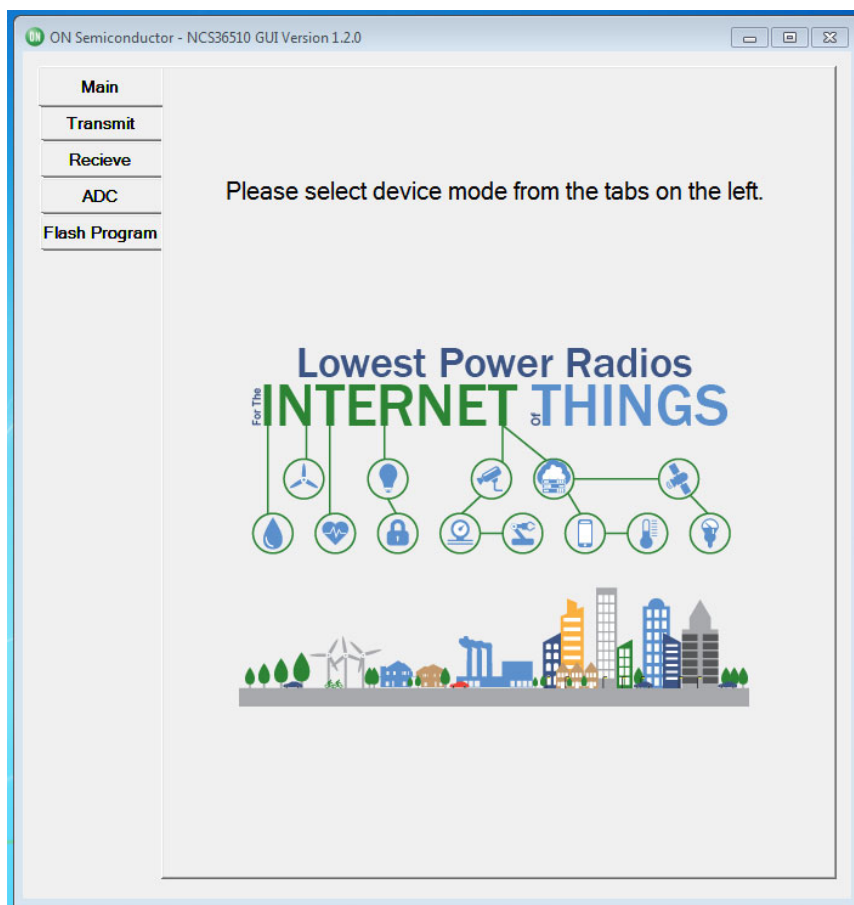
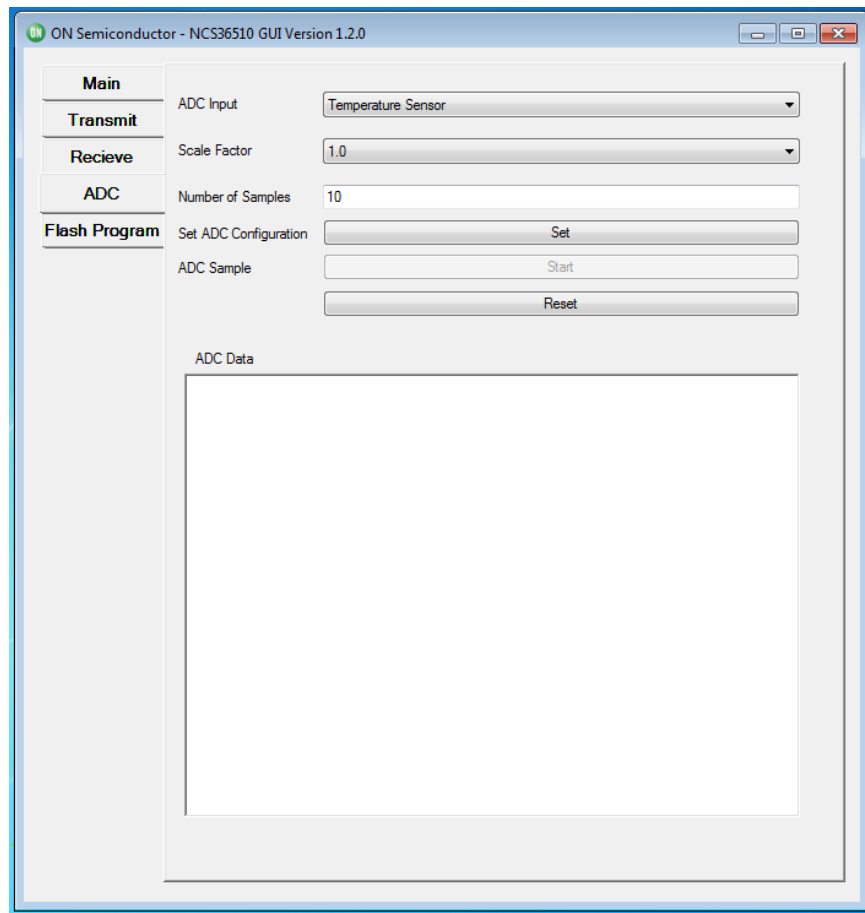
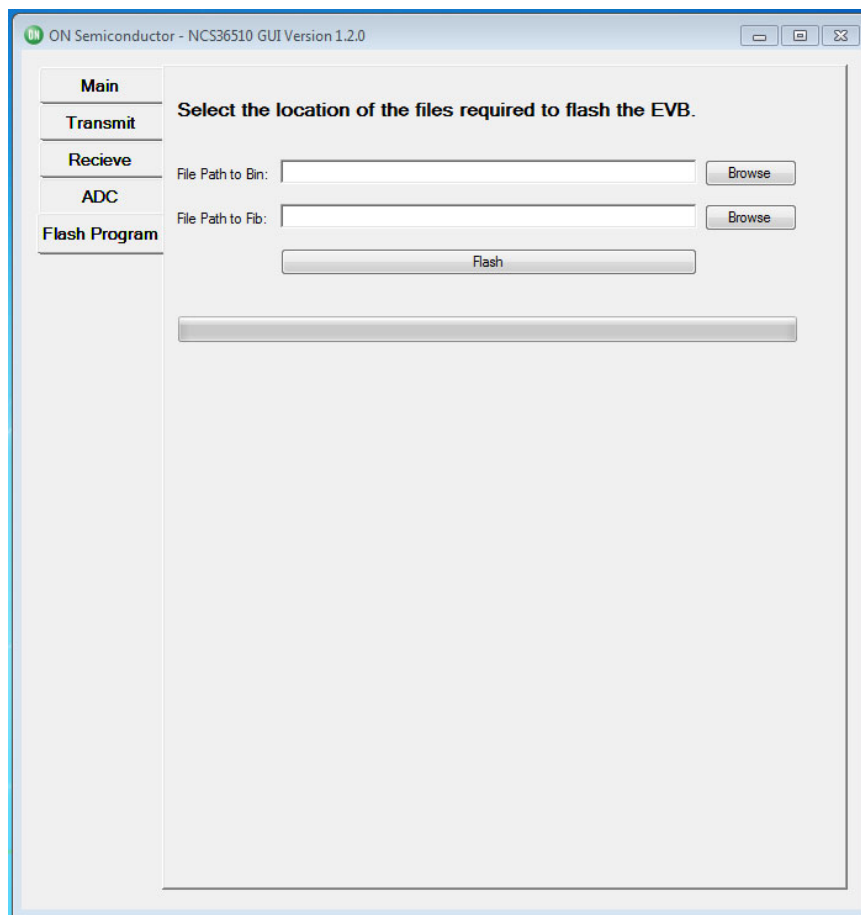

Figure 2. GUI Main Page
Figure 14. GUI–ADC–Interface
Figure 16. GUI–FLASH Program–Interface
3. Select the “ADC” tab as shown in Figure 2, the “ADC” page will look as shown in Figure 14.
3. Select the “FLASH Program” tab as shown in Figure 2, the “FLASH Program” page will look as shown in Figure 16.
8. Press the “OK” button and the program will restart in order to provide the user with the initial GUI interface as shown in Figure 2.